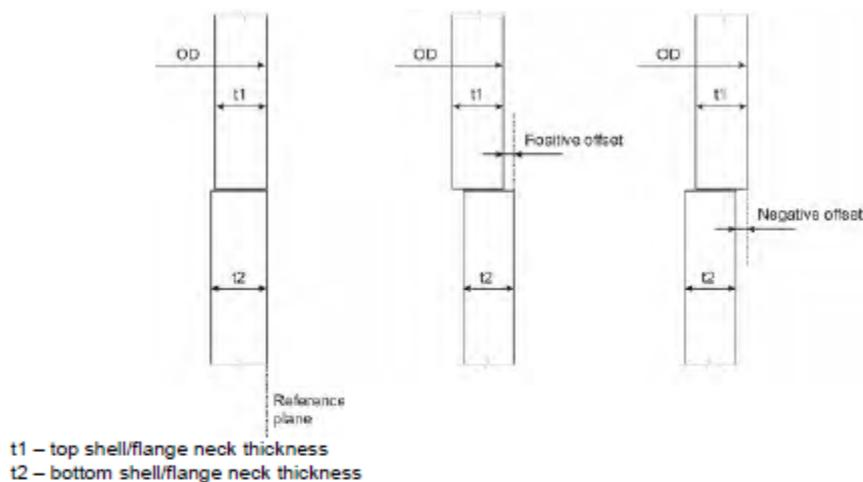

FIGURE 12 - NEGATIVE AND POSITIVE OFFSET MEASUREMENTS
6.11.6 Post Weld Offset in Circumferential Welds - In circumferential welds the outer diameters of the adjacent parts shall be coincident as shown in Figure 12 unless otherwise specified on drawing. Acceptance limits for positive and negative offset is listed in the Table 9. In case of unequal plate thickness, offset is the total misalignment subtracted by the scheduled misalignment (See Fig. 12,13). For the sake of convention, the terms "positive & negative" offset will be the same for reporting all seam offsets. If and when an issue arises concerning offset, the supplier must report the following: a) $t_1=t_2$; b) $t_1<t_2$; or c) $t_1>t_2$, the measured offset and whether it is positive or negative.